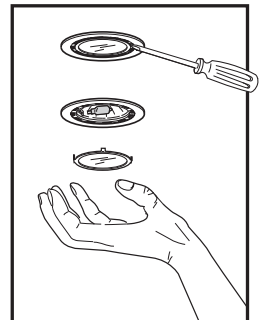

Fig. 3
- Using a flat edge from a screwdriver or equivalent tool pry loose the lens cover as shown in Figure 3.